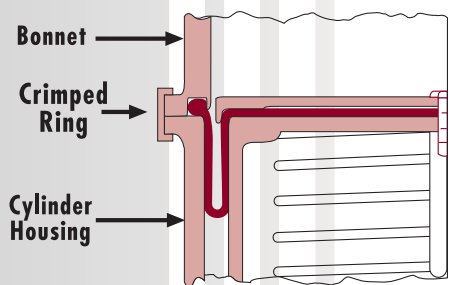

Fig. 29: Crimped Ring
**Crimped Ring (fig. 29)** – The use of a crimped ring to retain the diaphragm, coupled with die cast bonnet and cylinder lends itself to low cost hardware design and high volume production. This unique design eliminates conventional flange construction as well as the need for bolted type construction.